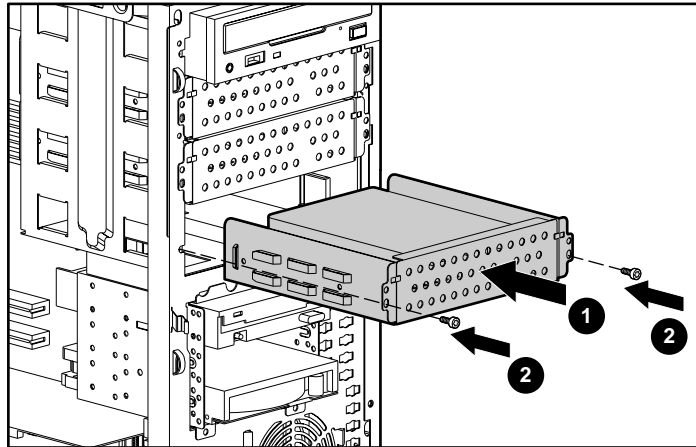

Figure 3-16. Installing a device into a 5.25-inch drive bay.
- Slide the device into the drive bay ❶, and then secure with screws on each side of the device ❷ as shown in Figure 3-16.